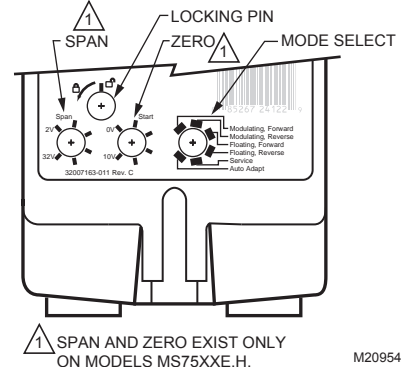

Fig. 5. Dials for control signal and zero/span.
NOTE: Selections are made using a dial that appears on both the front and back of the actuator (see Fig. 5). For available options, see Table 3.
These actuators have the capability of adjustable zero and span. Fig. 5 shows the dials. These dials are present only on the Enhanced Modulating models. A basic description of these dials follows:
2. Turn the zero dial (see Fig. 5) past the desired start point.
5. Turn the span dial (see Fig. 5) to the minimum setting (2 Vdc).